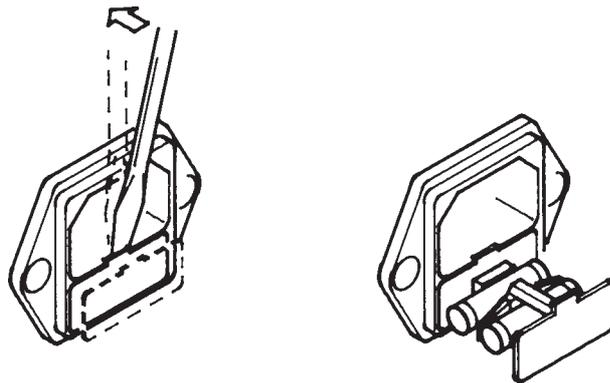

Figure 1-2 Removing the Fuse Holder
- 2.- Remove the fuse holder as shown in Figure 1-2.